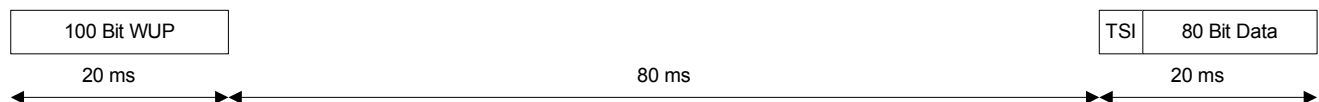

**Figure 1** State diagram of the software implementation of RF protocol examples for PMA71xx/PMA51xx
**Figure 1 on Page 6** shows a state diagram of the software implementation of RF protocol examples for PMA71xx/PMA51xx.